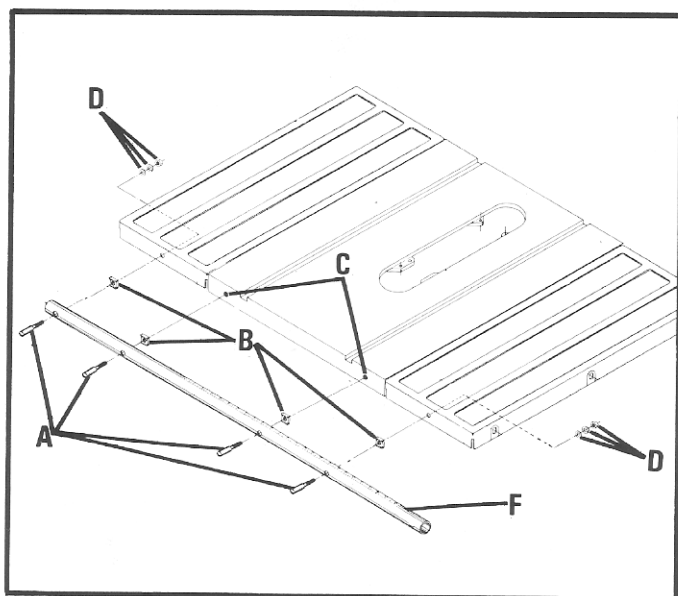

Fig. 18
1. The guide rail with the calibrations goes on the front of the saw table and should be positioned as shown in Fig. 18. Assemble the front guide rail (F) Fig. 18 to the saw table using two spacers (B) and special screws (A) threaded into tapped holes (C).
2. Use the remaining two spacers (B) and special screws (A) Fig. 18, to attach the front guide rail to the extension wings and fasten using the flat washers, lockwashers and hex nuts (D) provided.